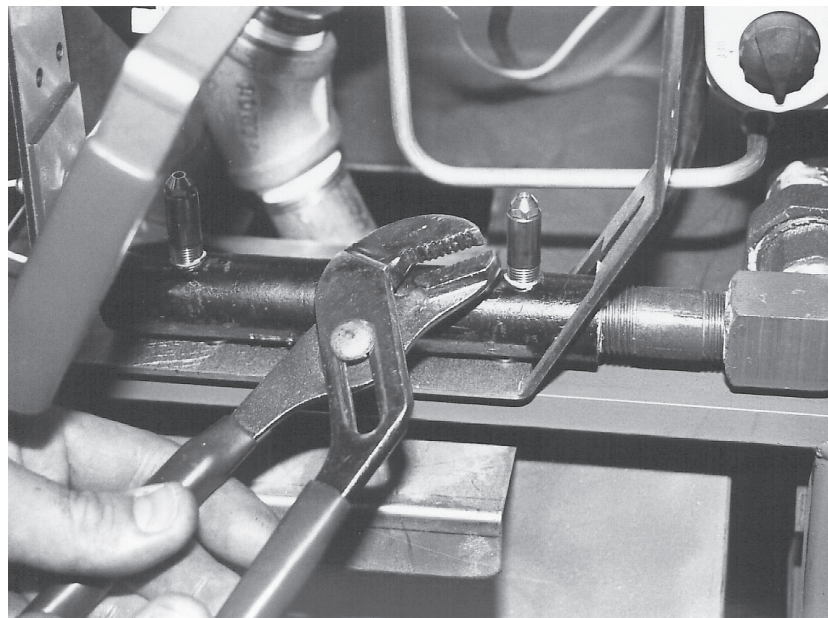

Fig. 36
3. With channel locks remove the pilot body. (Fig. 36)